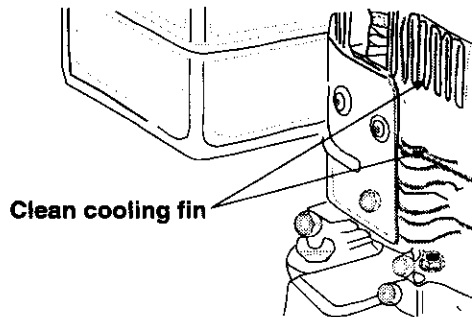

Figure 15
- Frequently remove grass clippings, dirt and debris from cooling fins, air intake screen and levers and linkage. This will help ensure adequate cooling and correct engine speed. See figure 15.
- Yearly or every 25 hours, whichever occurs first, remove the blower housing and clean the areas shown in figure 15 to avoid overspeeding, overheating and engine damage. Clean more often if necessary.